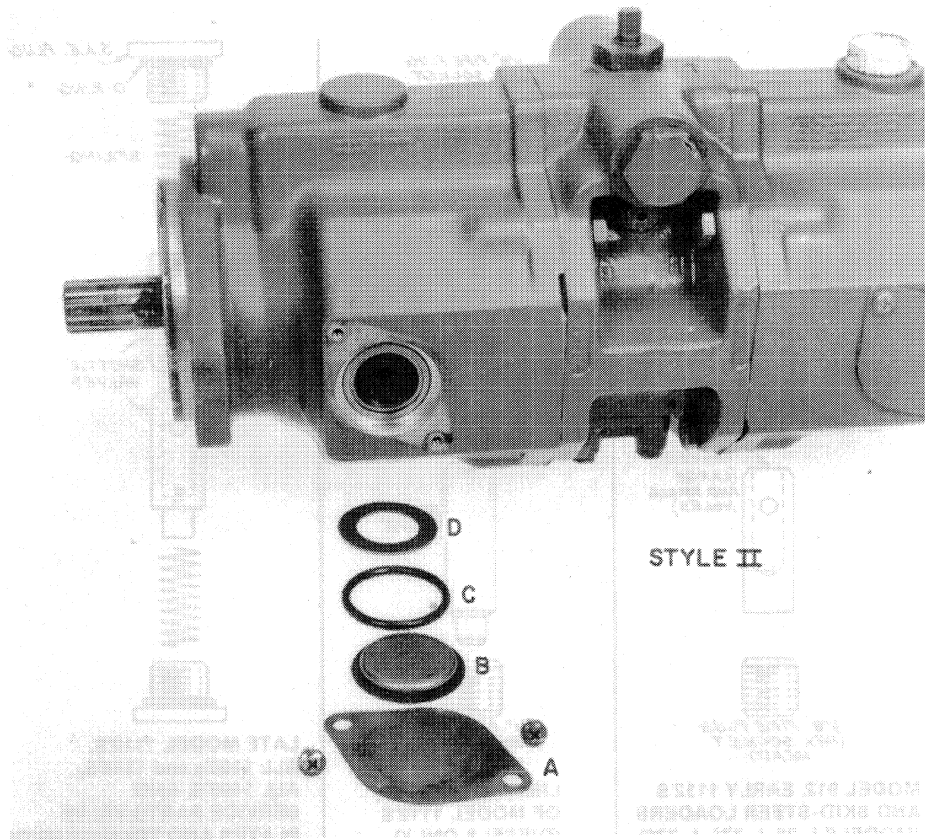
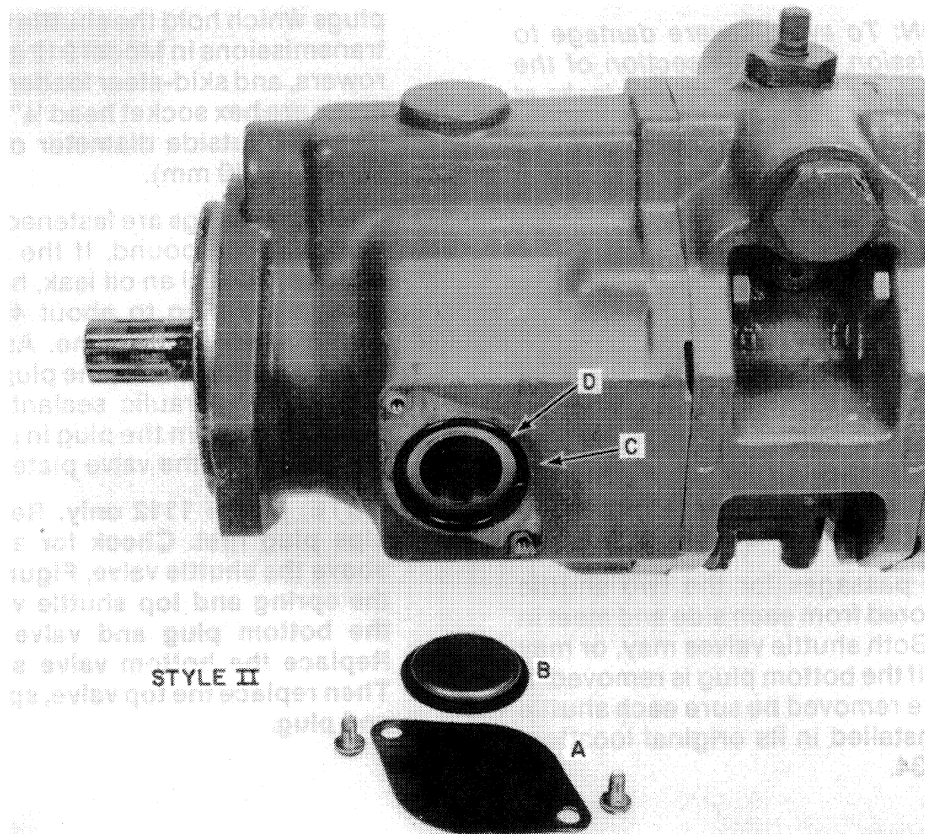

FIGURE 32
FIGURE 33
- (k) Figure 32 shows Type II seal for the short pintle shaft. Install flat washer, D, and O-ring, C, Figure 33. Install O-ring cover, C, and flat cover, A. Be sure the O-ring cover is centered on the O-ring. Hold the flat cover parallel to the bottom of the transmission and install the screws. Tighten the two screws alternately so the flat cover doesn't bend.